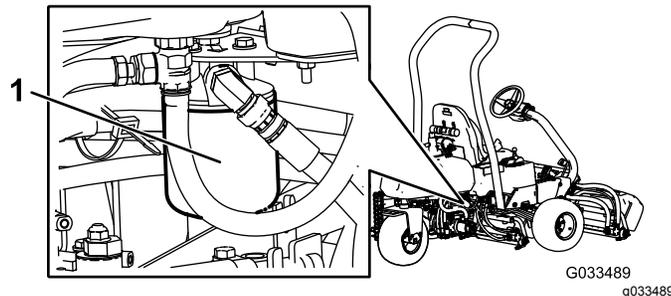

Figure 51
3. Repeat step 1 and 2 for the right hydraulic filter (Figure 51).